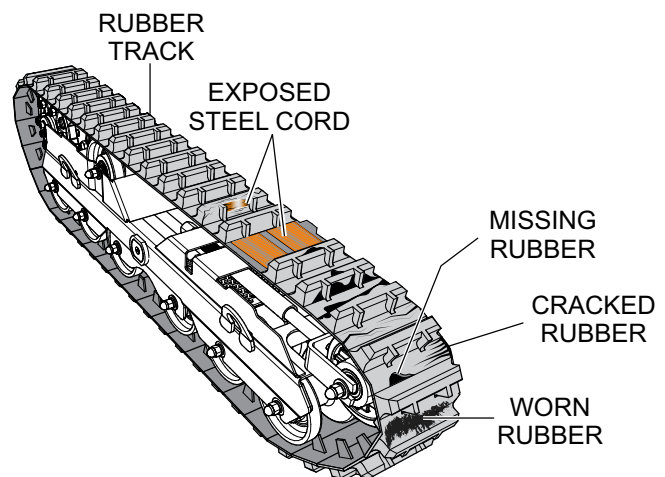

Figure 10. Rubber Track Inspection
1. **ALWAYS** check the rubber tracks (Figure 10) for cuts and abrasions.